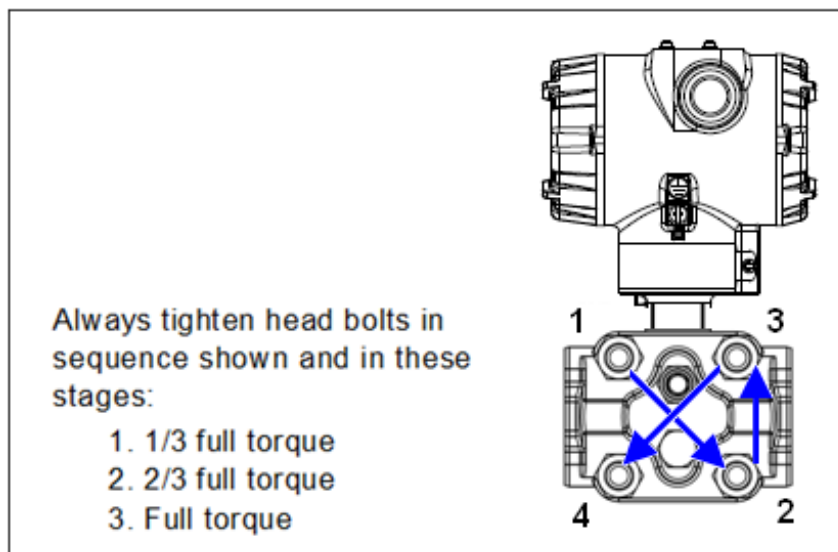

Figure 25 – Head Bolt Tightening Sequence
4. Loosen the nuts in the sequence shown in Figure 25.
12. Using a torque wrench, gradually tighten the nuts in the sequence shown in Figure 25. Tighten head bolts in stages of 1/3-full torque, 2/3-full torque, and full torque. See Table 28 for torque requirements versus Transmitter type and model.